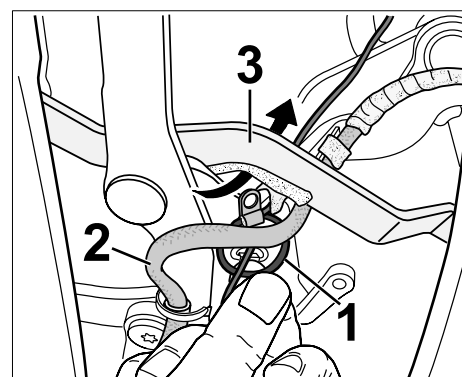

Figure 5
- 2.5 Guide the rubber cord ring $\Rightarrow$ Figure 5 **-Pos. 1-** through the convertible-top linkage using the tension rope, which has already been guided in.
To do this, feed the rubber cord ring **behind** the electric line that is installed there $\Rightarrow$ Figure 5 **-Pos. 2- and through the opening** between the two convertible top bows $\Rightarrow$ Figure 5 **-Arrow-**.
Make sure that the rubber cord ring is guided **under** the upper convertible top bow $\Rightarrow$ Figure 5 **-Pos. 3-**.